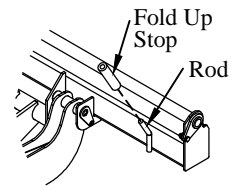

Figure 5: Platform stop location.
- 6. Install** the fold up stop on the rod on the main assembly (Figure 5).